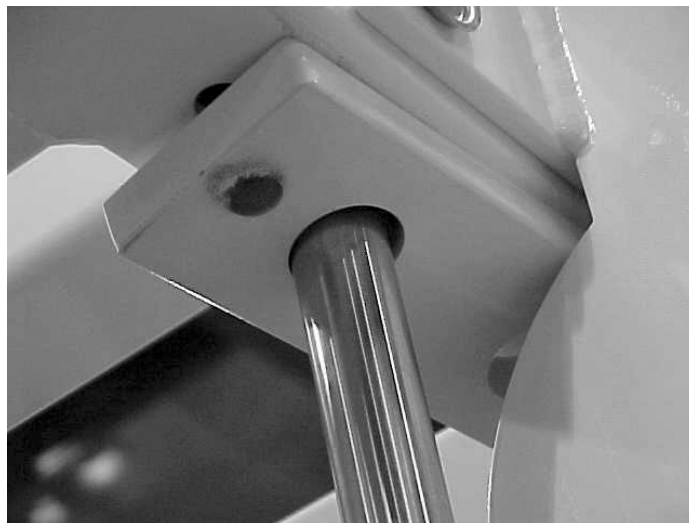

Figure 11. Bolt on the top plate.
- F. **Bolt on the top plate to the top of the cells** with the top plate on the guide rods as shown in Figure 11 using a 9/16" socket and combination wrench and the 3" bolts (with cap washers) that were previously inserted.